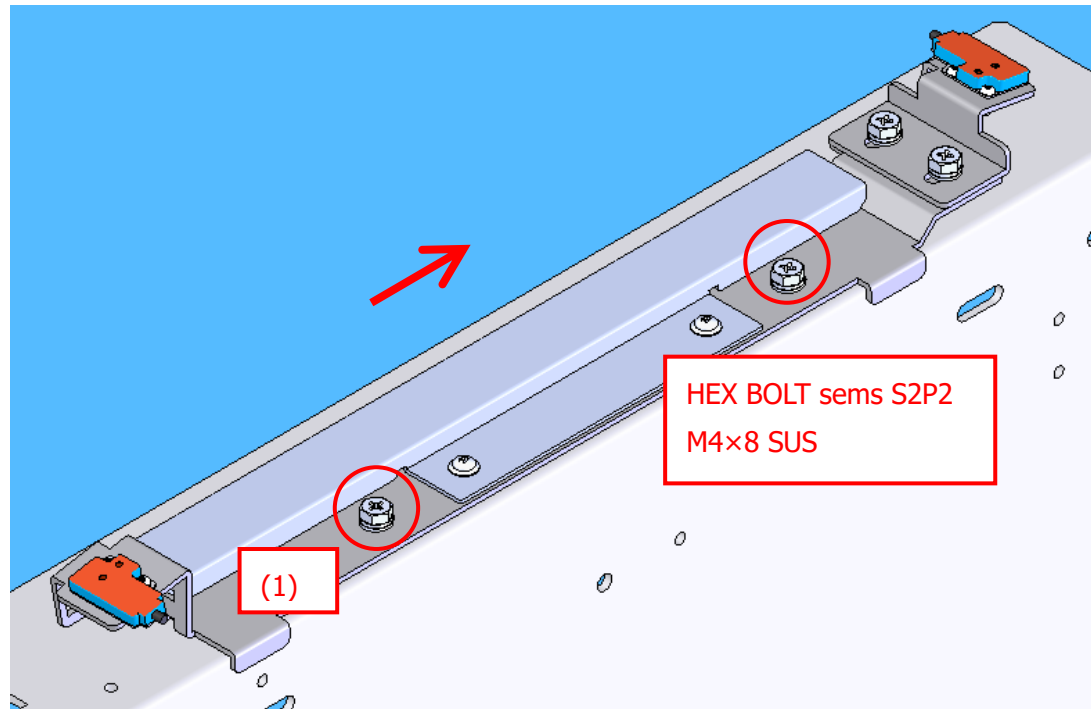

Fig. 4 Attach (1) to the main body frame
4. Attach (1) to the main body frame while moving toward the red arrow (Fig. 4).